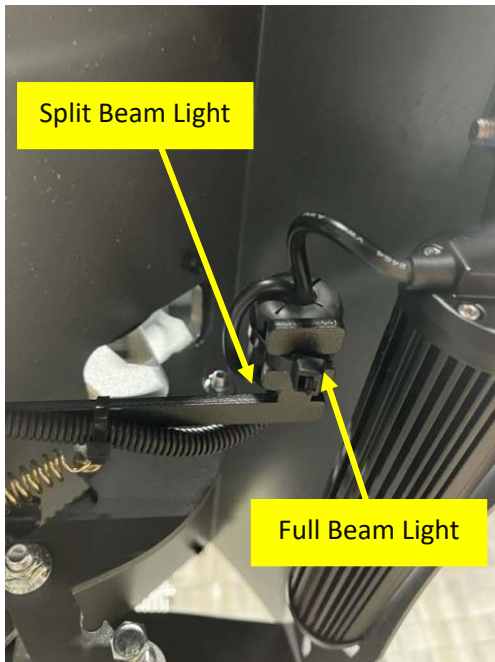

Figure 7
- Depending on which light is being installed (full beam or split beam), use the large zip-tie to mount the Fair-Rite onto the appropriate notch on Fair-Rite bracket. (Figure 7)